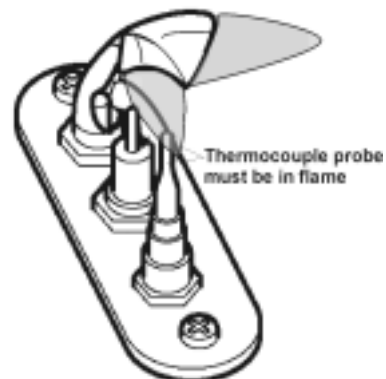

fig 20.4a
1. A periodic check of the pilot and burner flames should be made. Check after the fire has been on for at least 30 minutes. The pilot flame must cover the tip of the thermocouple probe. The main burner flame pattern will vary from appliance to appliance depending on the type of installation and climatic conditions. See figures 20.4a and 20.4b.